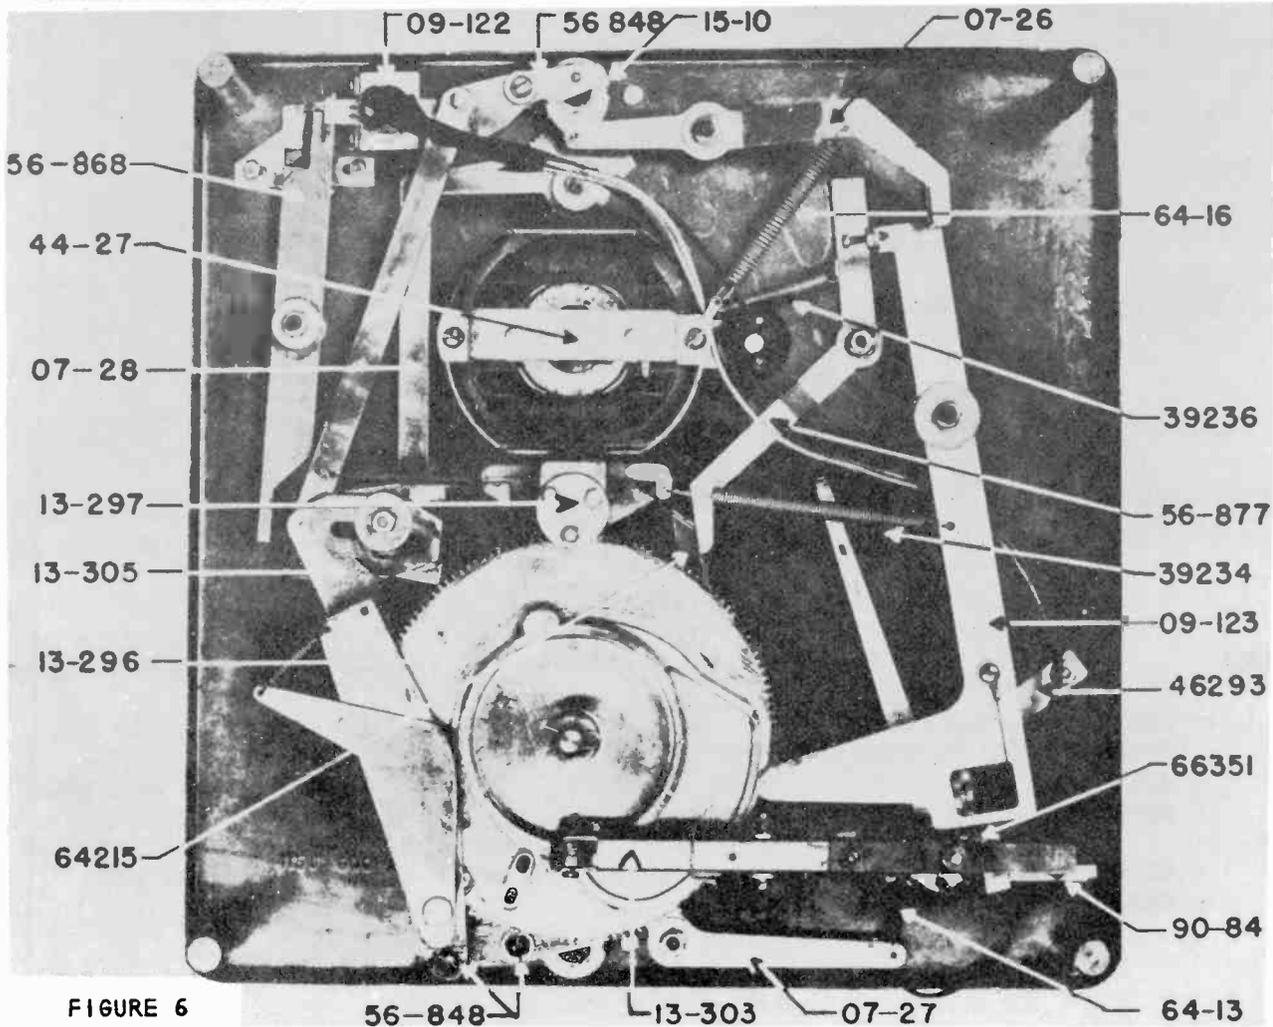

FIGURE 6
6. ADJUSTMENT OF NON TRIP CAM OF STARTING LEVER 13-38 (Fig. 6)
This Cam shown at "A" in (Fig. 6) should be adjusted so that when the machine is in the "Manual" position, the Starting Lever Release Trip 64215 (Fig. 6) will pass over the end of the Starting Lever 13-38 (Fig. 6) without touching. The front end of the Starting Lever must also clear the bottom of the Resetting Dog and the top of the Starting Pin both part of the Spindle Gear 57-8 (Fig. 6).